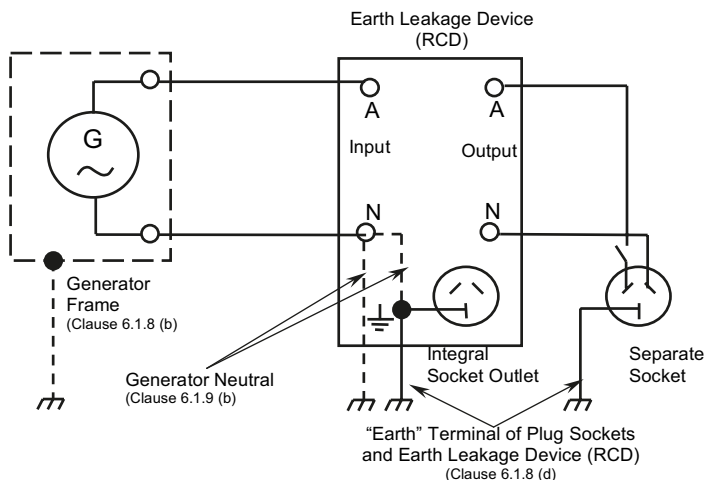

Figure 1 AS 2790
The diagram (Figure 1) below shows the equipotential connections.
- (A) Single-phase winding (without earth-leakage protection). The winding shall not be connected to the frame.
- (B) Single-phase winding connected to a current-operated (core balance) earth-leakage device complying with AS 3190. The input neutral terminal of the device shall be connected to the earth terminal of the device (where that terminal exists) or to a frame terminal (see Figure 1).
Where an RCD is used with, or connected to, a generator, the integrity of the connection between the generator windings and the equipotential bonding system on the generator (Refer to Figure 1) shall be tested using an RCD tester.